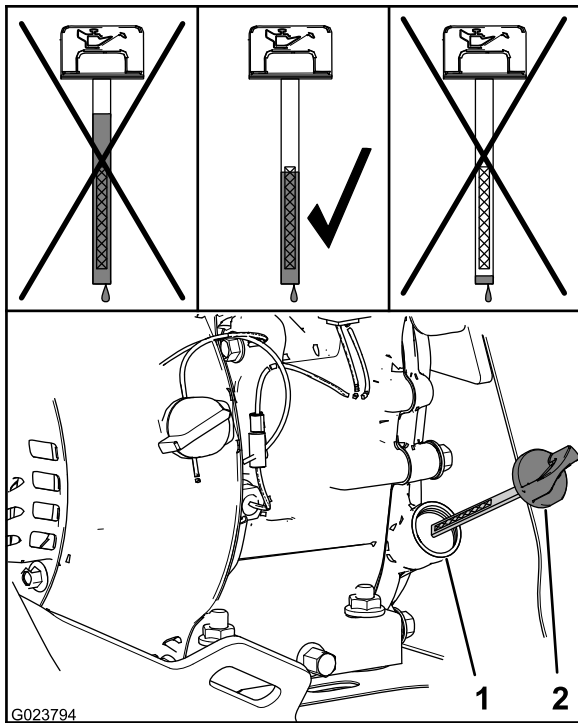

Figure 25
2. Remove the dipstick and read the oil level (Figure 25).
Note: The oil level should be at top of the indicator on the dipstick (Figure 25).
- A. Pour the specified oil into the filler neck (Figure 25).